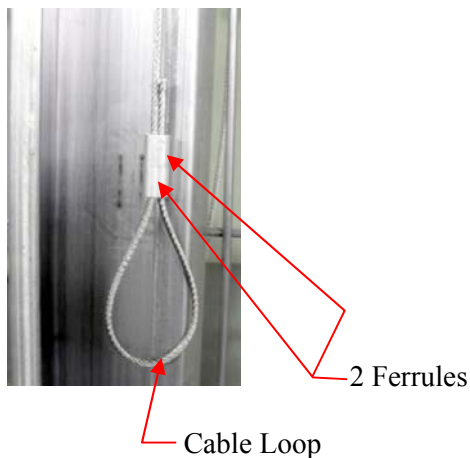

Figure 35
With the cable properly routed into the counterweight guide channel, have person #1 slide two (2) ferrules onto the cable then make a loop with the cable, and route the cable back through the two (2) ferrules (**Figure 35**).